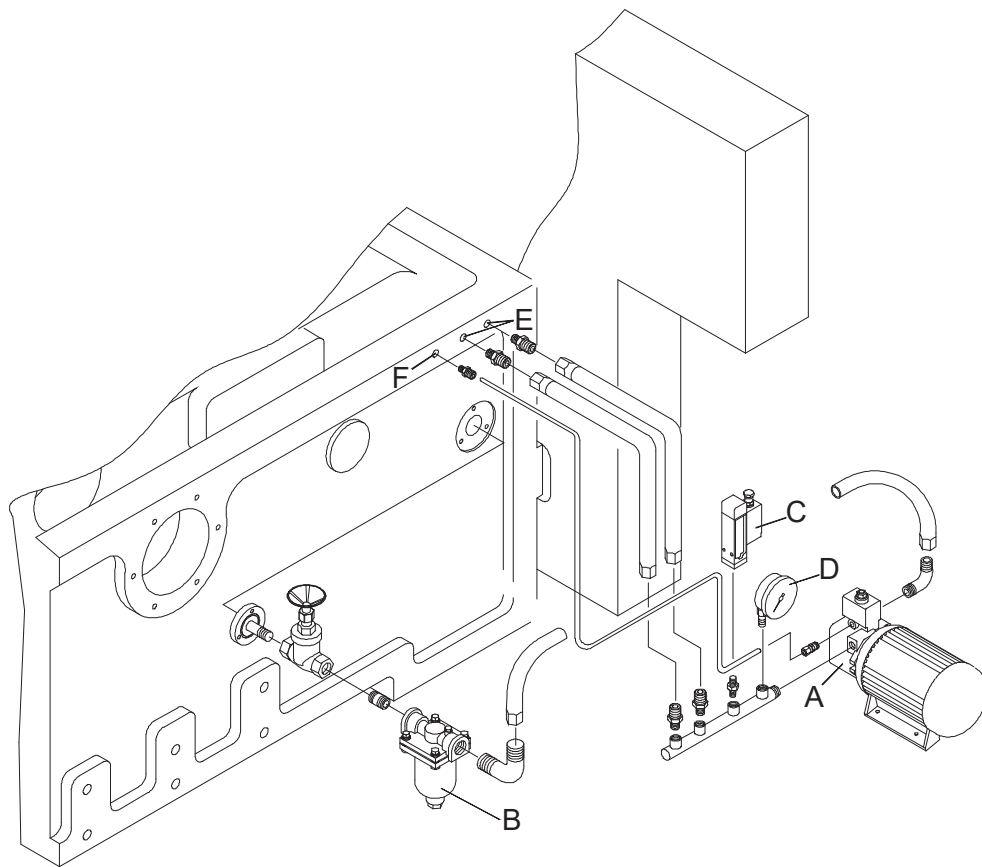

Fig.11.2
2. Pump Lubrication System (Fig.11.2)